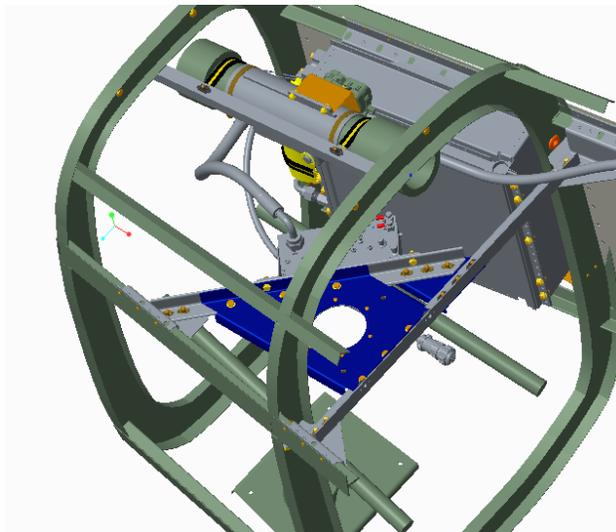
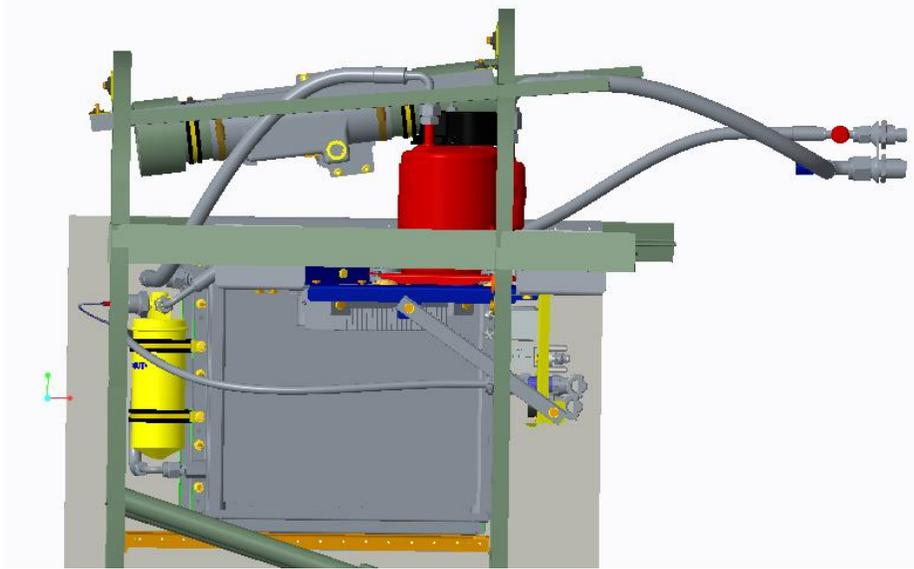
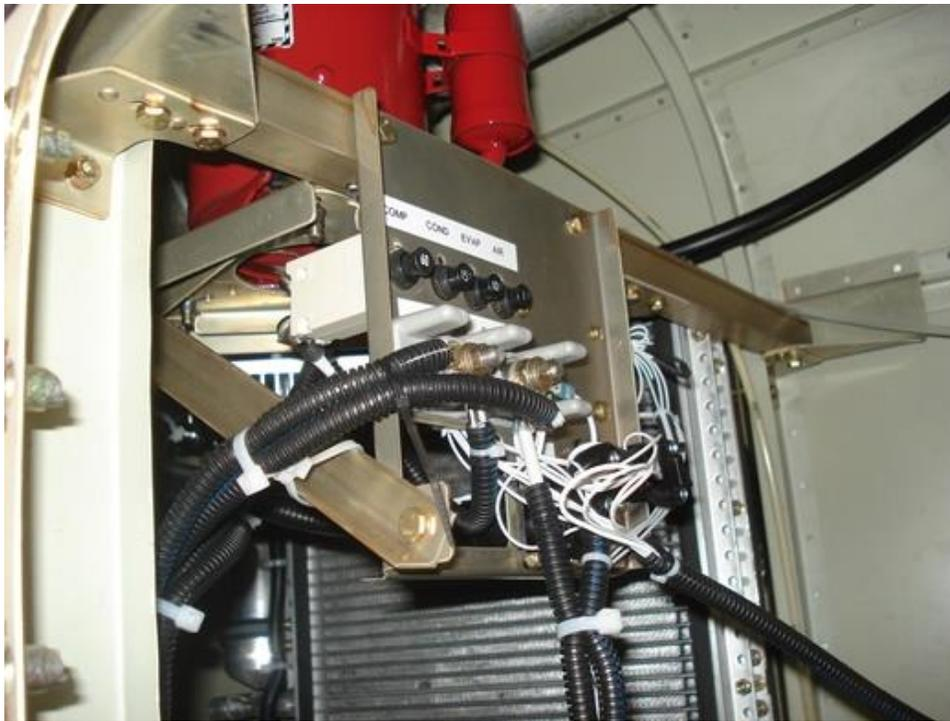

Figure 16 – Compressor Structure & Controller Installation
Figure 18 – Electrical Junction Installation
Figure 19 – Electrical Connections
- 1) Install the Compressor Support Structure and Controller per Notes 6.1, see Figure 16. Once the Brackets and the Support Angles are located and tightened in order to ensure the proper fit; some of the following shown in Figure 16 through Figure 19 can be pre-assembled outside the plane, depending on how many obstructions are between the access doors and the installation.
- 3) Reference Schematic AC-01680 for systems with the A1345 Controller or AC-01681 for the CB-2 controller. Install the Electrical Junction Plate per View 6 and View 6C and Figure 18. Make electrical connections referencing the appropriate schematic. The JAC3 Connector in either AC-01729 (CB-2) or AC-01750 (A1235) will remain loose until Evaporator installation further on. See Figure 19.